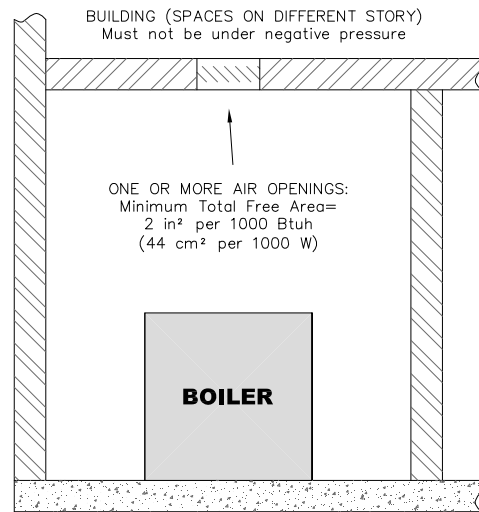

Figure 1.4: Air Openings – All Air from Indoors on Different Floors
b. **Combining Spaces on Different Floors:** Provide one or more permanent openings communicating with additional spaces that have a total minimum free area of 2 in² per 1000 Btu/hr (44 cm² per 1000 W) of total input rating of all equipment. See Figure 1.4 for an illustration of this arrangement.